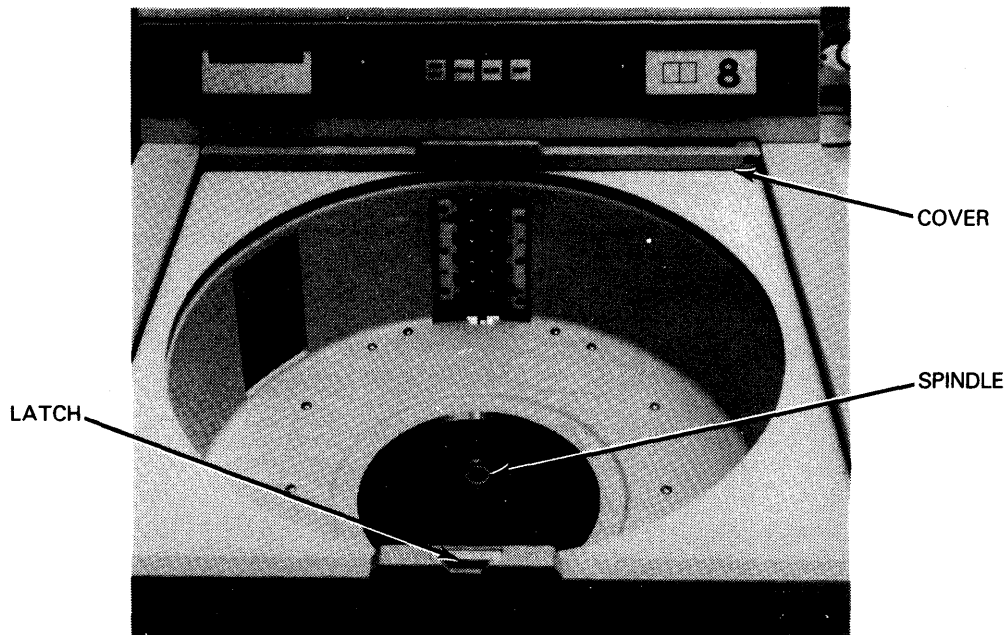

Figure 4-1. 8430/8433 Disk Drive with Access Cover Open
1. Push and release the cover latch. The cover will spring open (Figure 4-1). Slide the cover straight back to fully expose the spindle area.